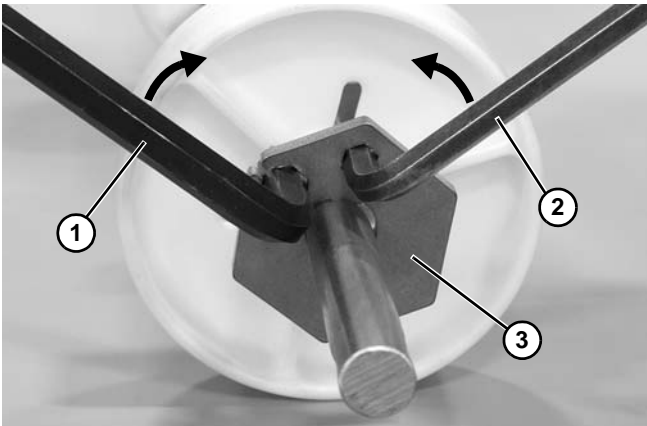

Figure 83
- a. Insert an 8 mm (Figure 83, item 1) and 6 mm (Figure 83, item 2) hex wrench into the retainer plate.
- b. Move wrenches toward each other to open the retainer plate (Figure 83, item 3) and install onto the shaft. Position retainer plate where needed.